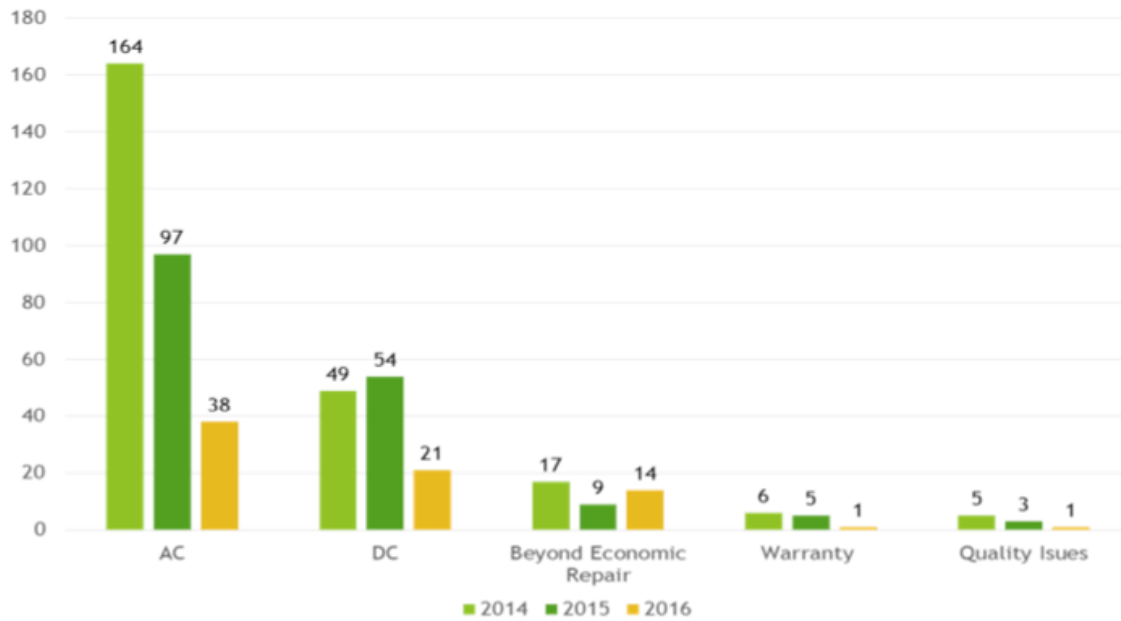

Figure 3: Motor Breakdown Rate
- Motor breakdown rate significantly decreased – See Figure 3